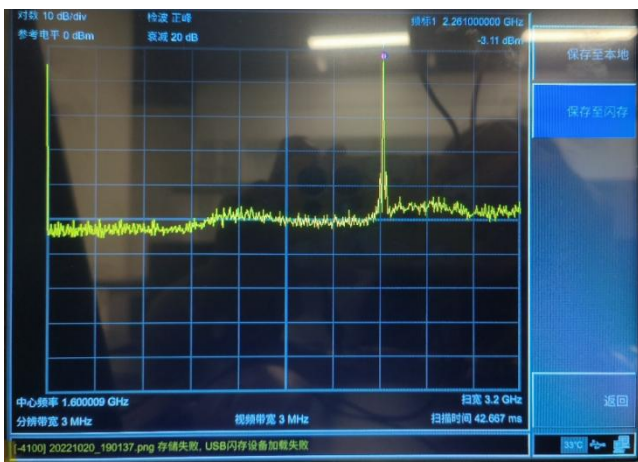

Fig. 1. Screenshot of the spectrum analyzer with Vtune=0V.
6. Adjust the function generator to set the Vtune voltage from 0 V to 5 V. Record the output frequency and power at each Vtune. The screen of the spectrum analyzer should look similar to Fig. 1.